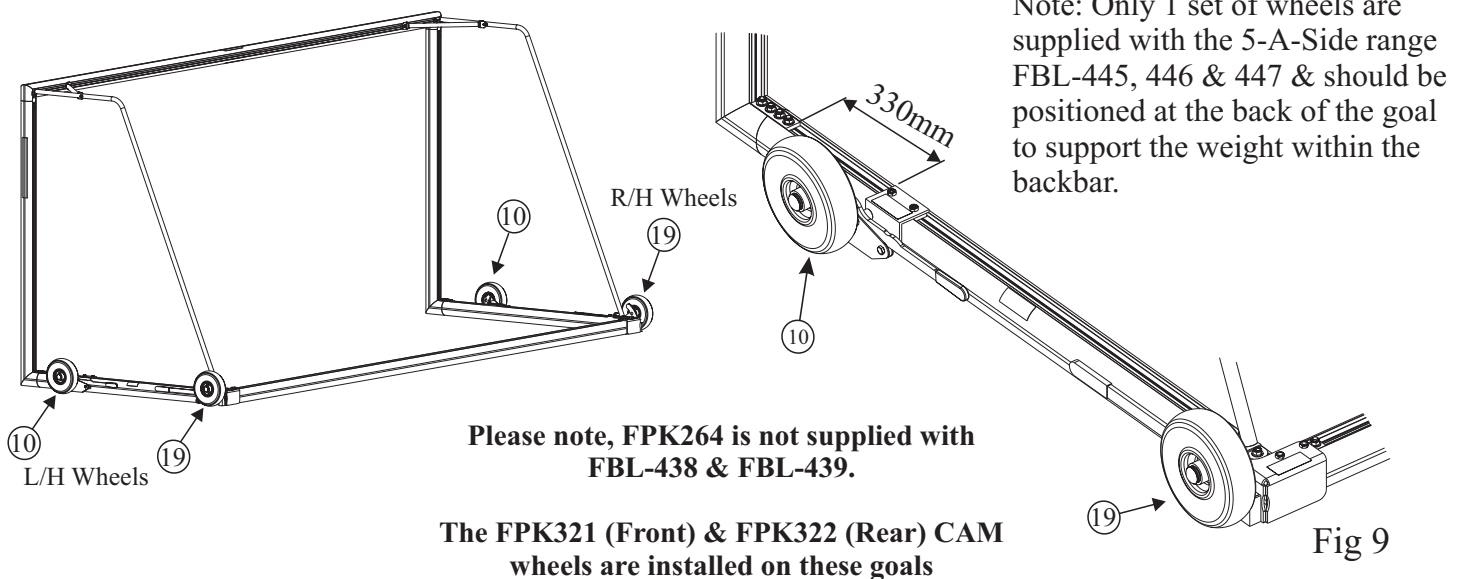

Fig 9
**Fitting the Wheels** - Fit the wheels as shown in the Assembly Instructions included with the Wheels (INS606). The Wheel positions are shown in Fig 9, but you must consult the Wheel Assembly Instructions for Important Operational and Maintenance information.